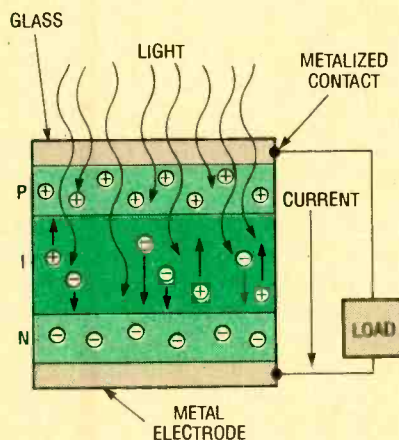

Fig. 8. Solar cells can generate a voltage as long as they are exposed to light.
**Solar Cells.** Solar cells (see Fig. 8) are an intriguing source of alternate energy, and are often considered to be "perpetual batteries." As long as they are exposed to a steady source of illumination, their output will remain very steady over a long time. Solar cells are finding increasing uses in consumer electronics, especially in commercial calculators and watches. They are also used as light sensors in photographic meters and other instrumentation.